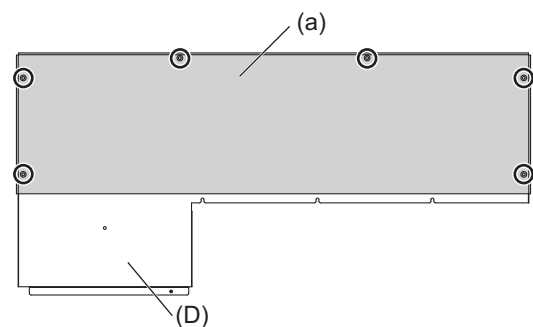

Fig.7
- ♦To avoid dew condensation, use insulated screws in the places marked with circles in Fig. 7.